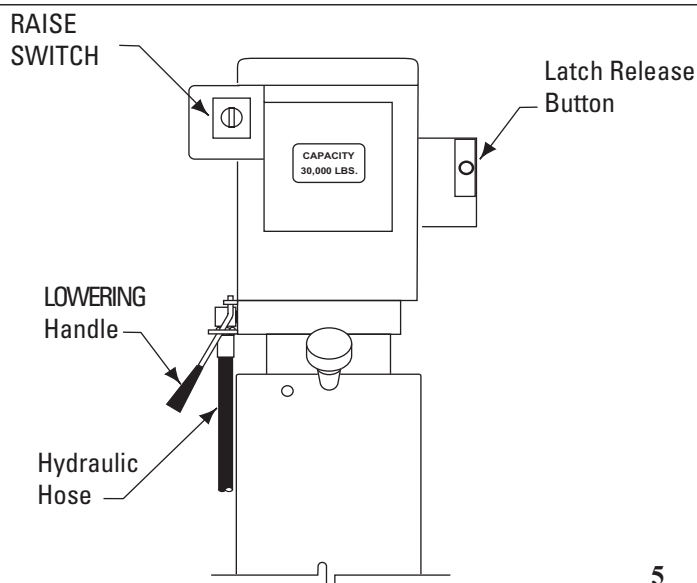

Fig. 3
1. Push the RAISE button on the power unit. Release button at desired height, Fig. 3.
2. Push the latch release button on power unit, Fig. 3, to disengage all four (4) locking latches.
3. Keeping the latch release button depressed, push lowering valve handle on the power unit to lower lift, Fig. 3. Lowering speed can be controlled by the force applied to the lowering valve handle.